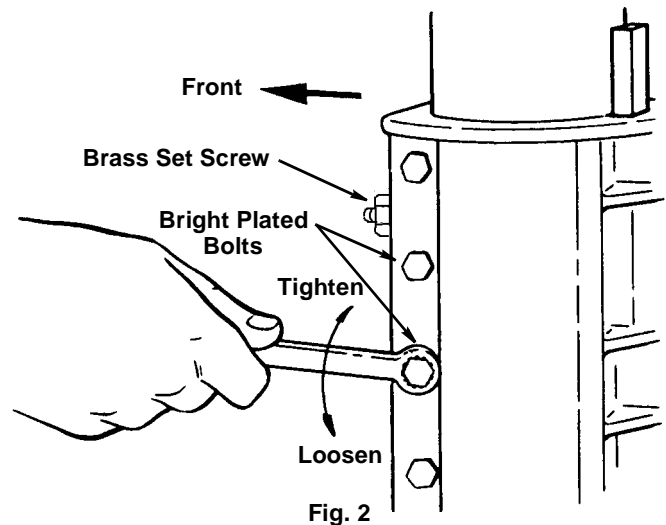

Fig. 2
Using the closed end of a box wrench, tighten all of the 5/16-18 black screw heads on the column support casting 1/16th to 1/8th of a turn. Tighten the (2) 5/16-18 silver screw heads slightly more than the black ones to achieve a close fit to the column tube (Fig. 2). (A 1/4" drive ratchet with a six point socket may be needed to get enough torque on bolts.) Loosen nut on brass set screw. Tighten the brass set screw firmly and retighten nut (Fig. 2).